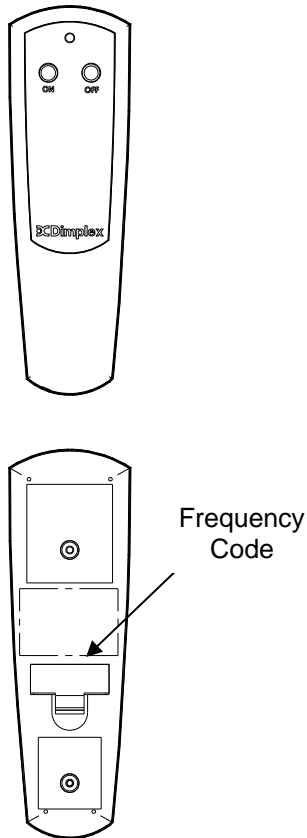

FIGURE 2
5. Press ON button located on the remote control transmitter (FIGURE 2). This will synchronize the remote control transmitter and receiver.